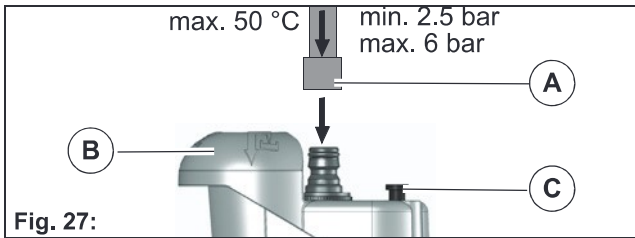

Fig. 27:
1. Fit the water connection **Fig. 27-A**. Do not yet open the water supply!
2. Push the operating button **Fig. 27-B**. The indicator knob **Fig. 27-C** protrudes.
4. The filling unit switches off automatically when the tank is full. The indicator knob **Fig. 27-C** no longer protrudes.
The machine can also be filled manually through the opening in the operating button **Fig. 27-B**. Check the level in the level indicator **Fig. 25-30**.